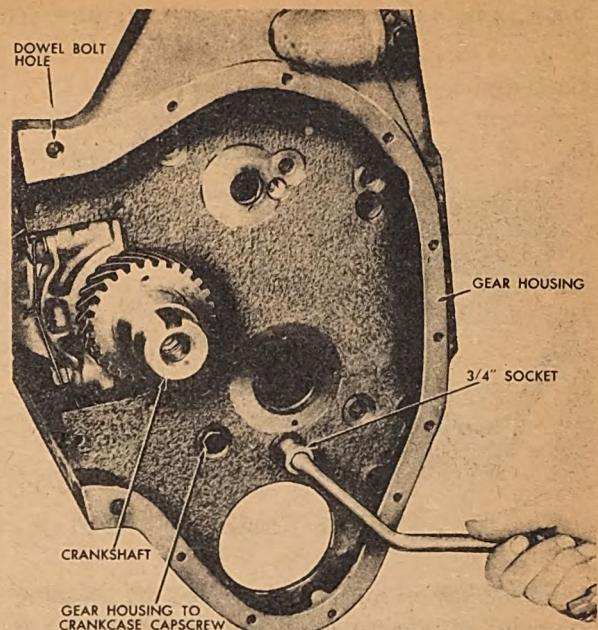

Fig. 103. Removing Gear Housing
r. *Removing Gear Housing.* Unscrew the six thin-headed capscrews holding the gear housing to the crankcase. Drive the dowel bolts through the gear housing with a brass drift and hammer. Remove the gear housing. (See Figure 103.)